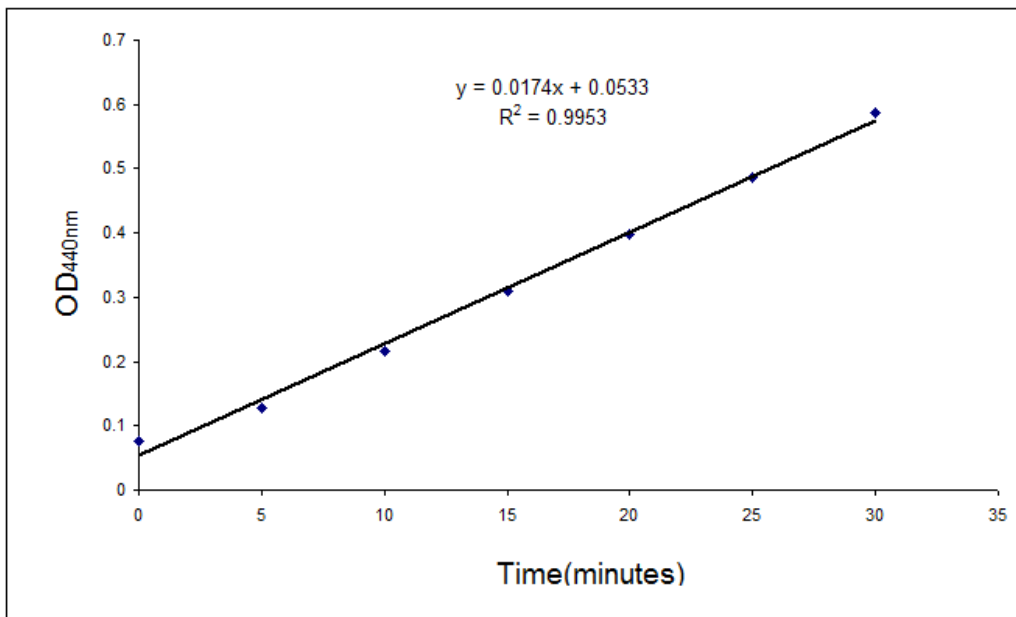

Figure1. Absorbance change of diluted PDH positive control at 440nm.
Diluted PDH positive control is measured with the PDH Assay kit after different reaction times (Figure 1 and 2). The detection limitation is from 0.005 to 0.08 U/mL.
- Add 90 µL of working reagent mix into each well of the 96-well plate containing the diluted PDH positive control, samples, and blank. Mix well immediately and start recording OD_{440nm} over 30 minute intervals, collecting data every 5 min. Figure 1 shows the data of diluted PDH positive control.